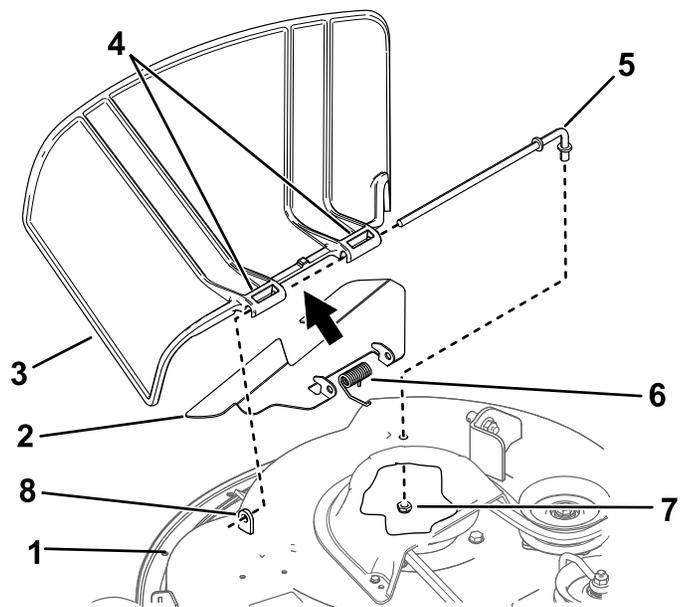

Figure 76
1. Remove the nut (3/8 inch) from the rod under the mower (Figure 76).
2. Slide the rod out of the short stand-off, spring, and grass pivot (Figure 76).
4. Install the new grass deflector (Figure 76).
7. Slide the rod through the second grass-deflector pivot (Figure 76).
9. Secure the rear end of the rod into the mower with a nut (3/8 inch) as shown in Figure 76.